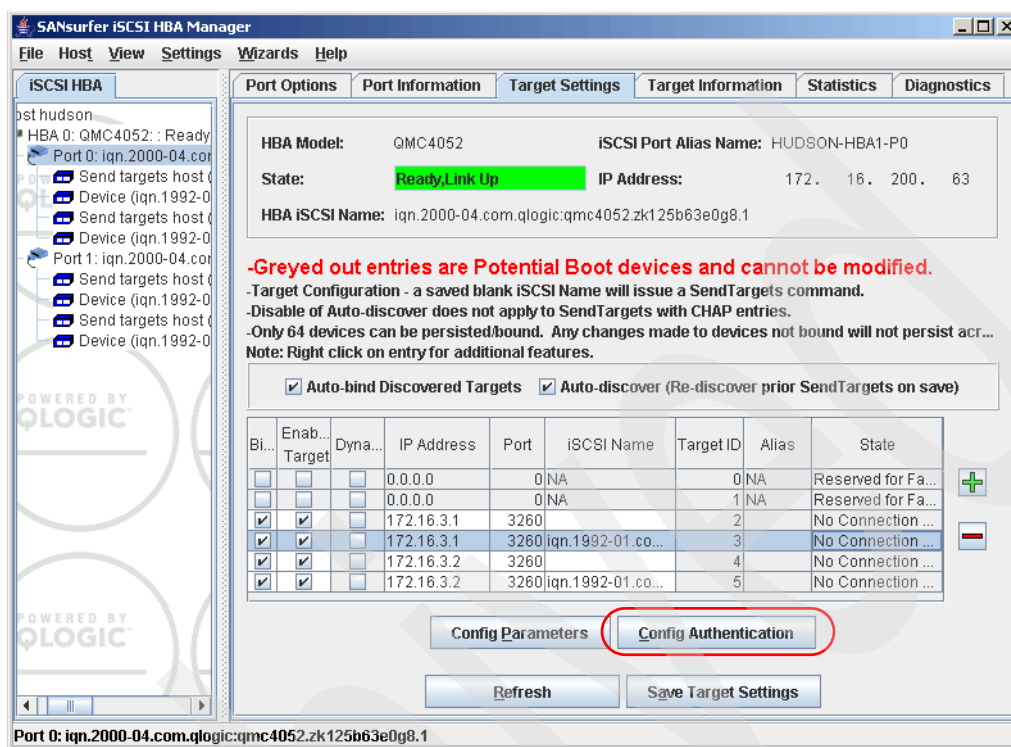

Figure 21-55 SANsurfer - Configure initiator authentication
- After setting the CHAP secret on the DS3300, the HBA initiators need to know the CHAP secret and the associated targets to use the secret for. In SANsurfer, click **Configure Authentication**. See Figure 21-55.